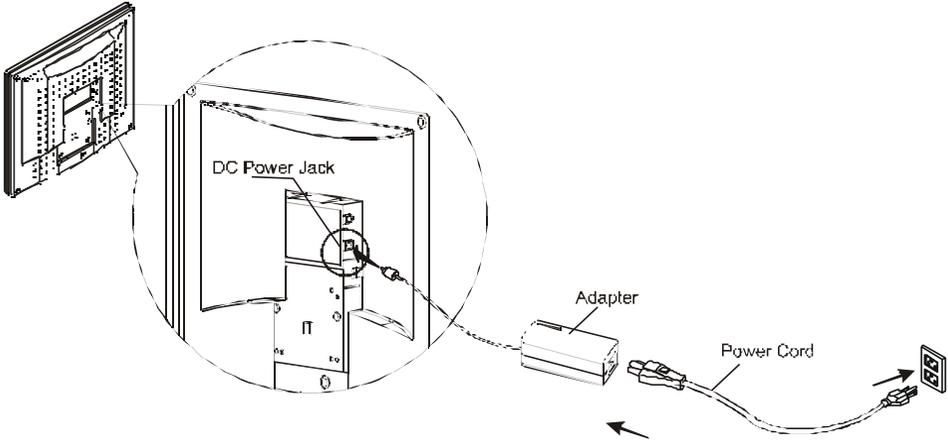

Figure 1-5
1. Connect the power cord to the AC adapter. (See Fig. 1-5)